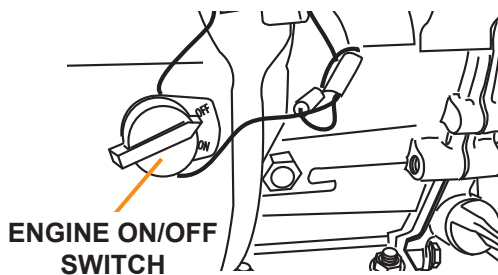

Figure 3
4. Turn the engine power switch to the ON position (see Figure 3).